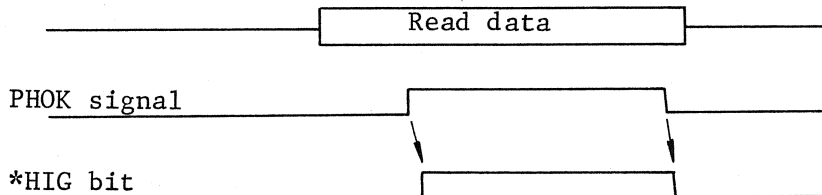

Figure 4.15 *HIG bit control in 6250 BPI mode
The SLIPC (described later) will be set to '1' if Wind Signal is set to '0' without detecting a data byte (800) or DNOIS signal. Figure 4.15 shows set and reset timing of WIND signal.